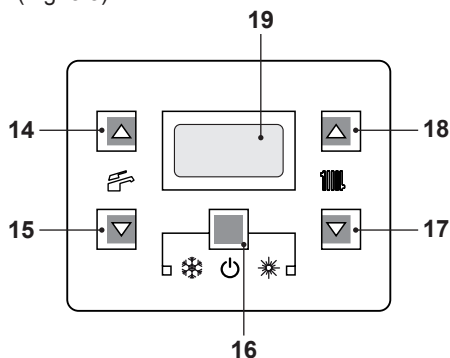
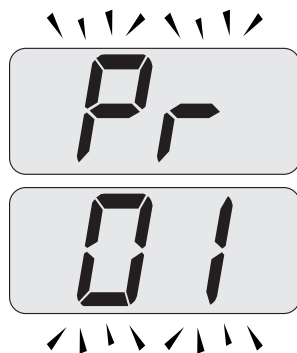

Fig. 8.7
Fig. 8.8
- Enter in "programming mode" by sequentially pressing and holding keys 16 - 17 - 18 (Fig. 8.7) for 10 seconds at the same time until the letters **Pr** that alternate with code 01 are displayed on the LCD display, indicating that "parameter 01", has been activated (Fig. 8.8).
- Press keys 16 and 18 (Fig. 8.7) at the same time until the value of parameter 15 (Fig. 8.10) is displayed on the LCD display.
- By pressing key 16 (Fig. 8.7) confirmation of the inserted value is obtained.
- Press keys 16 and 17 (Fig. 8.7) at the same time to exit without changing the value (return to the parameters list Fig. 8.9).
- Press sequentially keys, 16 - 17 and then 18 (Fig. 8.7) and hold in for 10 seconds to exit the "programming mode".
ing system can be increased or reduced by  $\pm 15^{\circ}\text{C}$  by pressing the keys 17 (reduce) and 18 (increase) (Fig. 8.7).